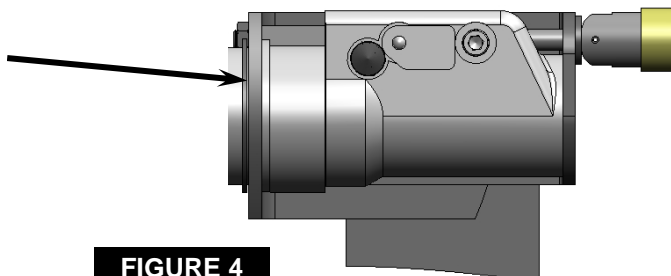

FIGURE 4
1. Open bracket as far as necessary to install female half by rotating handle counter clockwise, figure 4.